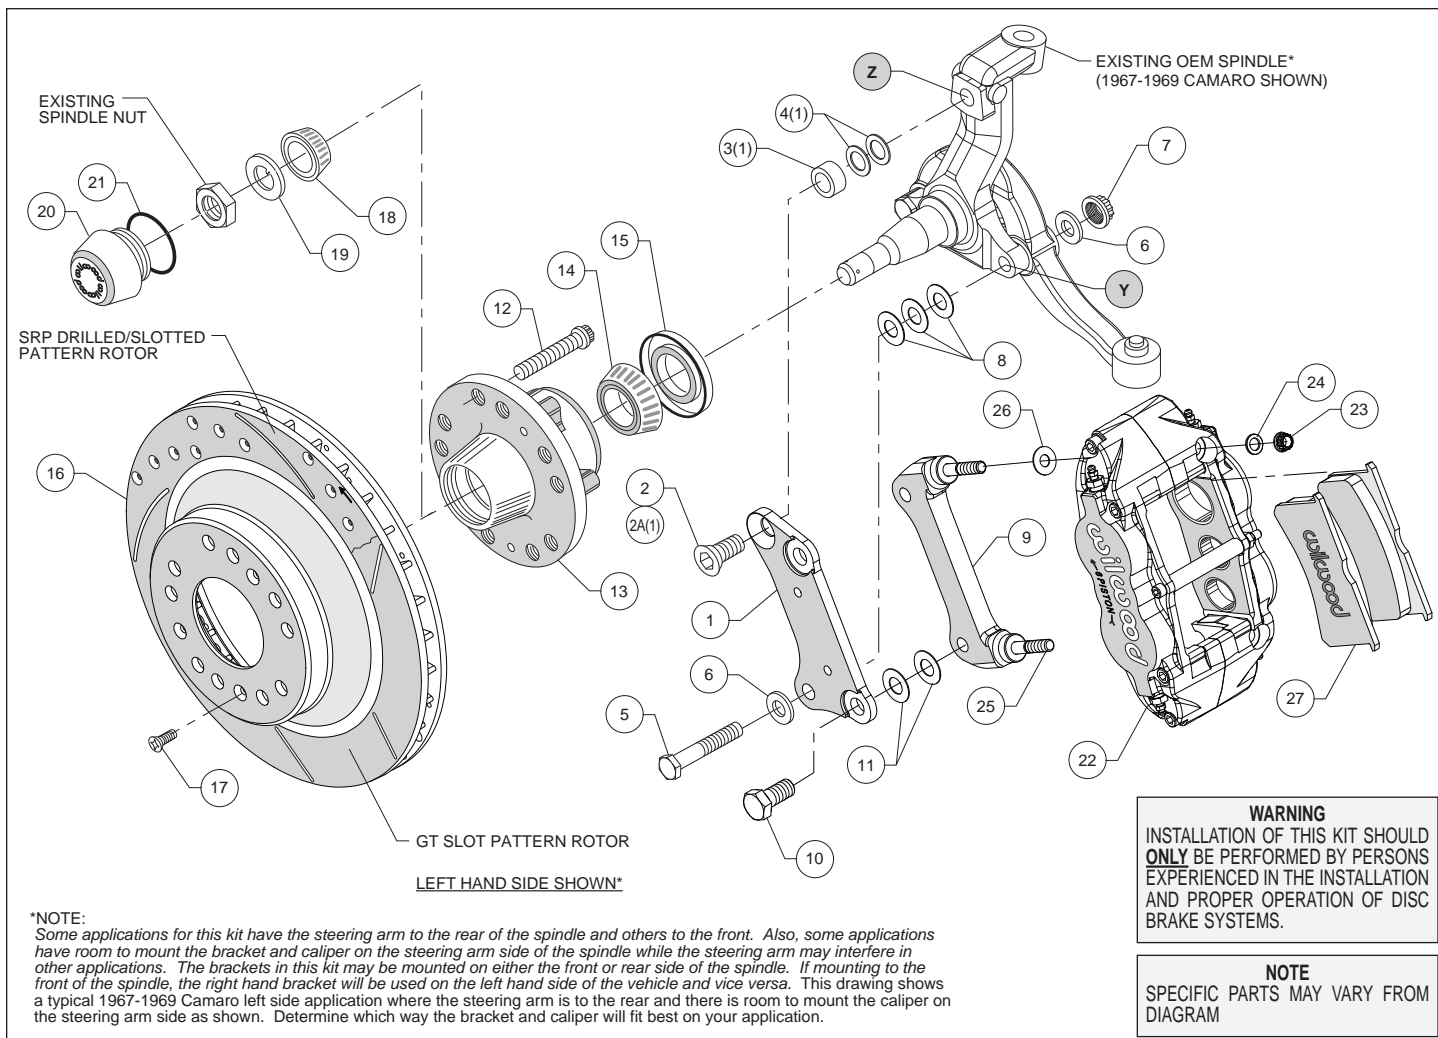
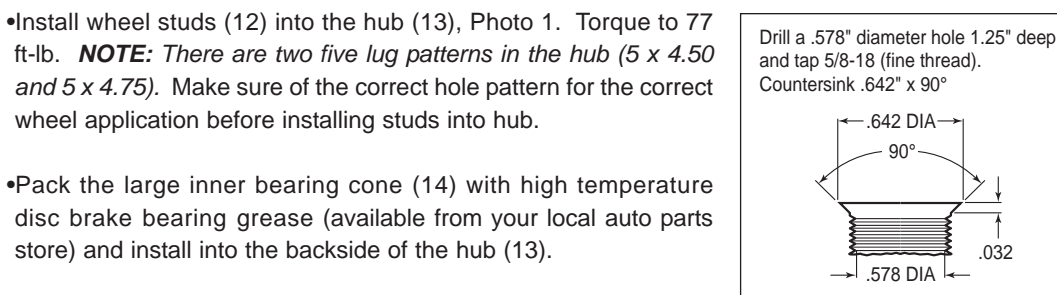

Figure 1. Typical Installation Configuration
Figure 3. Drill and Tap Detail
Assembly Instructions (numbers in parenthesis refer to the parts list on the preceding page, and Figure 1):
•**NOTE:** Some applications for this kit have the steering arm to the rear of the spindle and others to the front. Also, some applications have room to mount the bracket and caliper on the steering arm side of the spindle while the steering arm may interfere in other applications. The brackets in this kit may be mounted on either the front or rear side of the spindle. If mounting to the front of the spindle, the right hand bracket will be used on the left hand side of the vehicle and vice versa. Figure 1 shows a typical 1967-1969 Camaro left side application where the steering arm is to the rear and there is room to mount the caliper on the steering arm side as shown. Determine which way the bracket and caliper will fit best on your application.
•**NOTE:** Some spindles in this year range may require the following modifications (reference Figure 1 and Figure 3): Top anchor pin hole (Z) must be drilled and tapped to the dimensions as outlined in Figure 3. The lower bolt hole (Y) in the spindle used to mount the new caliper bracket, and the mating steering arm hole, must be enlarged to .50" by drilling. It is recommended these modifications be performed by a qualified machinist.
•Install wheel studs (12) into the hub (13), Photo 1. Torque to 77 ft-lb. **NOTE:** There are two five lug patterns in the hub (5 x 4.50 and 5 x 4.75). Make sure of the correct hole pattern for the correct wheel application before installing studs into hub.
•Pack the large inner bearing cone (14) with high temperature disc brake bearing grease (available from your local auto parts store) and install into the backside of the hub (13).
•Install the grease seal (15) by pressing into the backside of the hub (13), Photo 2.
•**Disc Brake Spindle Application Only:** Follow the instructions below, but instead use bolt (2A), spacer (3), and two .050" thick shims (4) in the upper bolt hole location, Figure 1.
•Orient the flat bracket (1) as shown in Figure 1 and Photo 3, and install using bottom bolt (5), washers (6), and nut (7), Figure 1. Initially place three .032" thick shims (8) between the bracket and spindle. Install the upper bolt (2 or 2A). Temporarily tighten bolts. **NOTE:** The bracket must fit squarely against the mounting surfaces on the spindle. Inspect for interference from casting irregularities,
machining ridges, burrs, etc. Temporarily install the new hub/rotor. Check that the bracket is aligned parallel to the rotor, Photo 4. If not, adjust by adding or subtracting shims (8) on the lower bolt between the bracket and spindle, Figure 1. Once the bracket alignment is correct, remove the upper bolt (2 or 2A), apply red *Loctite*[®] 271 to the bolt threads, and torque to 120 ft-lb. Torque the lower lock nut to 65 ft-lb.
- The radial mount caliper bracket (9) should initially be installed with clean, dry threads on the mounting bolts. Orient the bracket as shown in Figure 1 and Photo 5, and install using bolts (10). Initially place two .029 thick shims (11) on each bolt between the two brackets, Figure 1. Temporarily tighten the mounting bolts. Later, after the caliper alignment has been checked, the mount bolts will be secured using red *Loctite*[®] 271.
- Final install the hat/rotor (16) onto the hub (13), taking care to align the small countersunk holes in the hat with the small threaded holes in the hub. **NOTE:** *The hat must fit flush against the hub face or excessive rotor run out may result.* Install three flat head screws (17) through the small holes in the hat (16), Photo 7, and torque to 85 in-lb.
- NOTE:** *This kit contains distinct right and left hand calipers that must be mounted in a specific direction, as described below.* Lubricate the caliper mounting studs (25) with lightweight oil. Initially place one .035" thick shim (26) on each stud between the caliper and the bracket, as shown in Figure 1 and Photo 8. Mount the caliper (22) onto the bracket (9) using lock nuts (23) and washers (24), Figure 1. Ensure that the caliper is mounted so the largest pistons are at the rotor exit end of the caliper, in relation to the direction of rotor rotation. Temporarily tighten the lock nuts. The rotor should be centered in the caliper, Photo 9. If not, adjust by adding or subtracting shims (11) between the flat bracket (1) and the caliper bracket (9). Always use the same amount of shims on each of the two mounting bolts. Once the caliper alignment is correct, remove the bracket mounting bolts one at a time, apply red *Loctite*[®] 271 to the threads, and torque to 77 ft-lb.